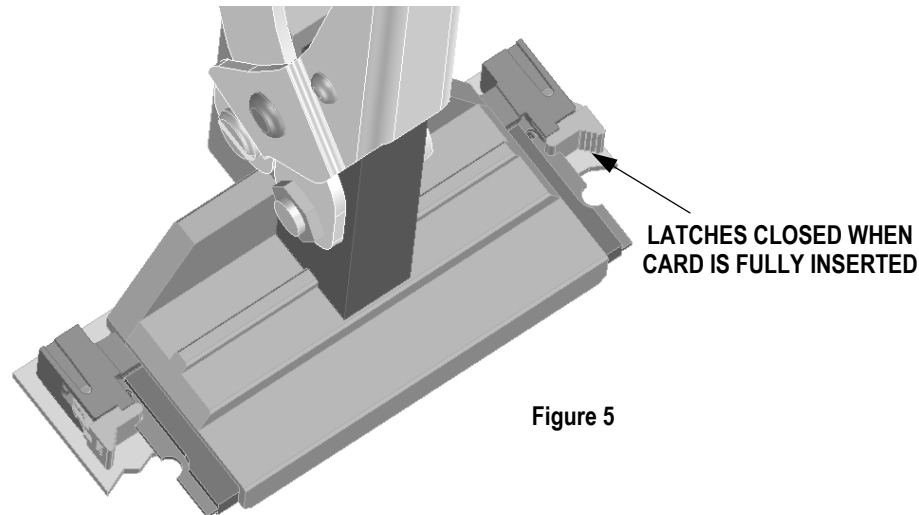

Figure 5
8. When the card is fully inserted the socket latches will be closed on the card. (DO NOT squeeze the tool handles beyond this condition.) See Figure 5.